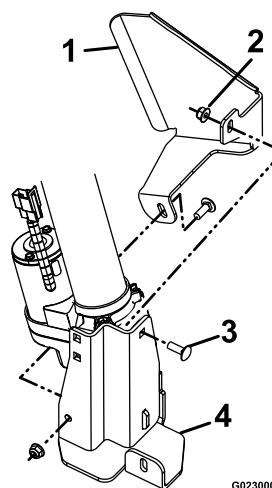

Figure 7
- Install the actuator-shield bracket onto the lower actuator-bracket assembly (Figure 7).